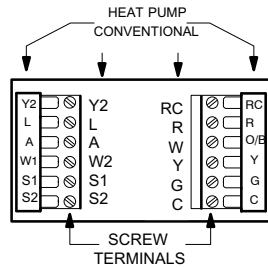

Figure 4 - Terminal Identifications for System Type
1. Select conventional set of terminal identifications which correspond to the system type (conventional or heat pump (see figure 4). Lennox commercial equipment does not use the heat pump system terminals.